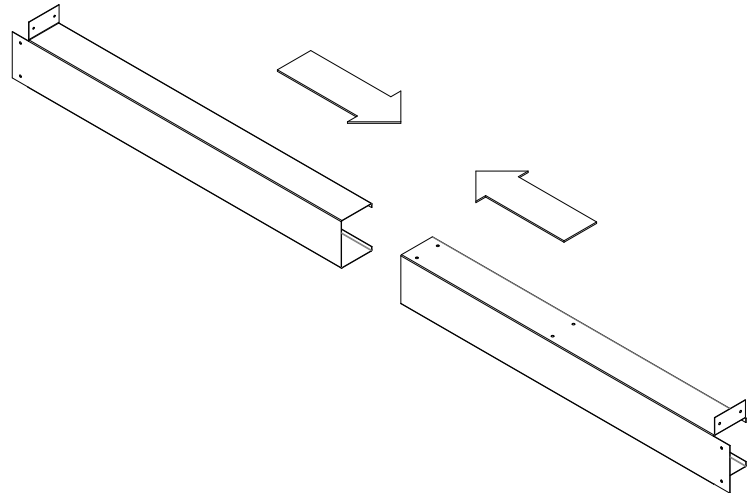

Figure 19: Steel Stud Assembly
- Take the two steel stud pieces and slid them into each other. The flanges of each piece should be at the end of the assembly, as well as facing upwards as shown in Figure 19.